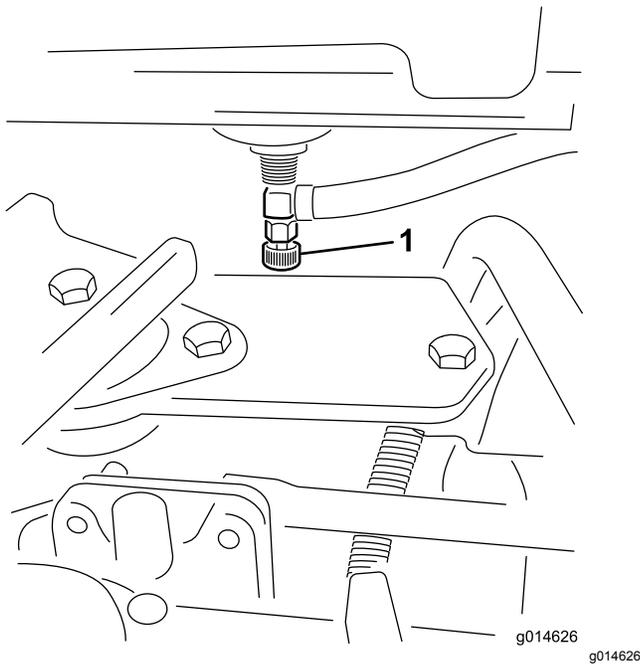

Figure 33
1. Close the fuel-shutoff valve (Figure 33) below the fuel tank.